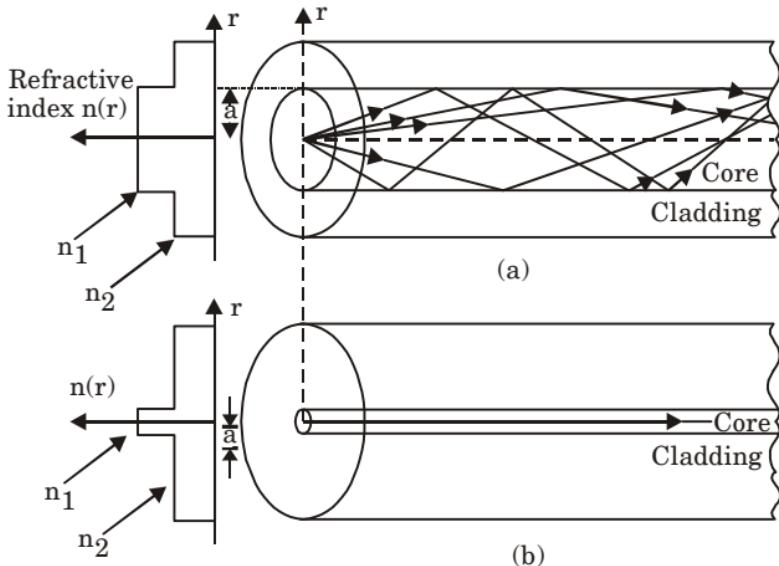

Fig. 1.20.1. The refractive index profile and transmission in step index fibers : (a) multimode step index fiber ; (b) single-mode step index fiber.
5. The Fig. 1.20.1 shows a multimode step index fiber and single mode step fiber. In multimode step index fiber core diameter is around 50 μm or greater, which is large enough to allow the propagation of many modes within the fiber whereas single mode step index fiber has a very fine thin core, so that only one mode can be propagated.